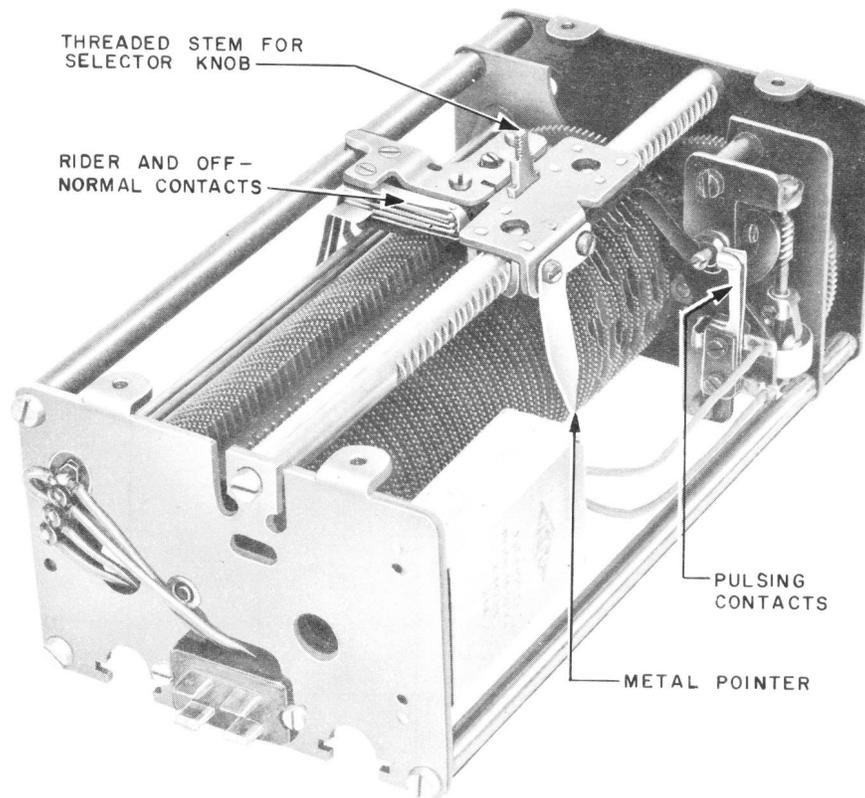

Fig. 12 – Interior View
- This cut will remove the corner of the first tooth to permit smooth operation of the rider (see Fig. 12).
- Burnish or clean contacts (see Fig. 12).